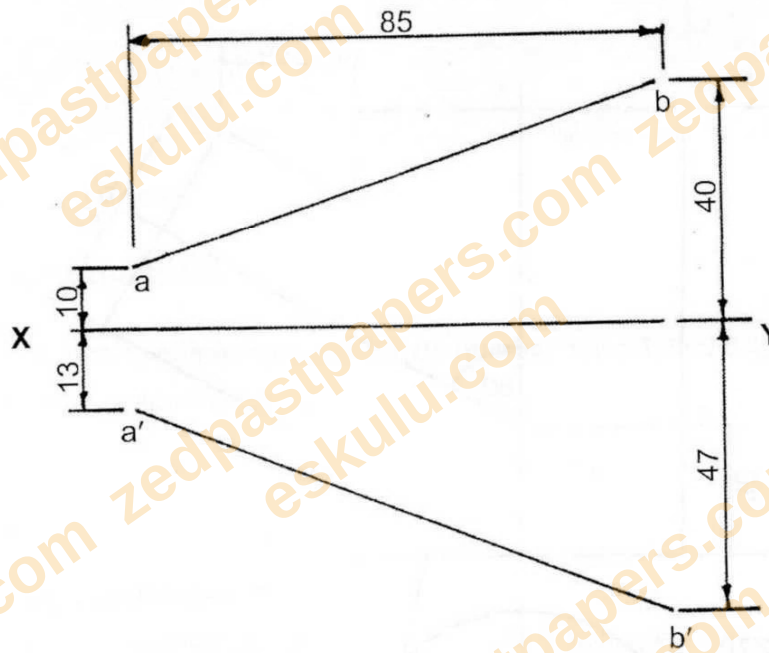

Figure 7
Figure 7 shows two views of a straight line ab inclined both to the horizontal and vertical planes.
Question 7. SECTION B, Q7 [20]. Figure 7 shows the plan (a, b at 10mm and 40mm above XY) and elevation (a-prime, b-prime at 13mm and 47mm below XY) of a straight line ab, with horizontal separation 85mm. (a) Draw the two given views [4]. (b) Determine the true length of ab [7]. (c)(i)(ii) Determine the true angle of inclination of ab to the horizontal (HP) and vertical (VP) planes [9].